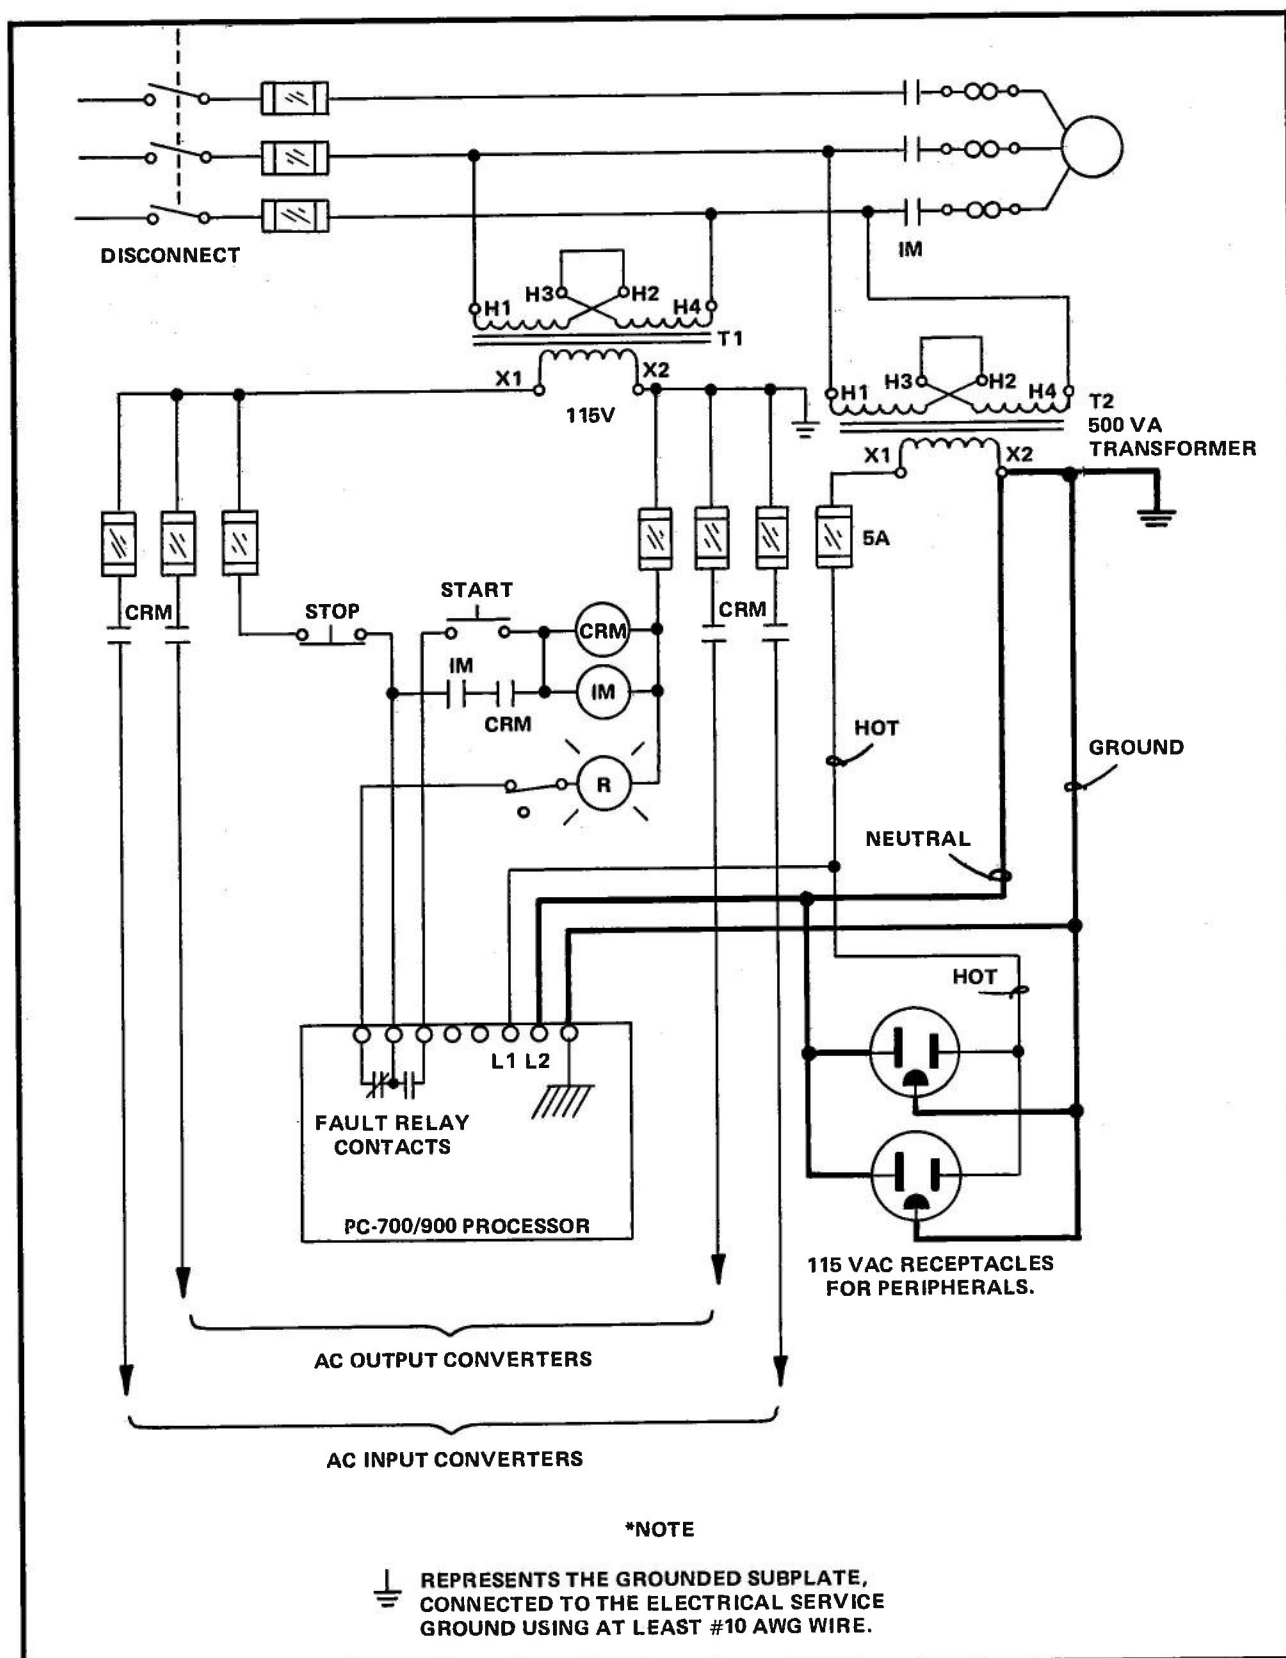

Figure 7-13. Typical PC-700/900 System Power Wiring
A typical programmable controller power wiring scheme is shown in Figure 7-13. As shown, power to the processor and peripherals is isolated by a 500 VA control transformer (T2). The X2 end of this transformer's secondary, the ground pin of the 115 Vac peripheral's receptacles, and the processor's ground terminal are all connected to the subplate. This T2 transformer is a Westinghouse Type MTC (or equivalent), 500 VA transformer used to isolate the power supply from I/O-generated switching transients in normal applications. In applications where particularly "dirty" a-c supply lines exist, change T2 to a high isolation transformer or line conditioner.
makes the Fault Condition relay's normally-open (NO) and normally-closed (NC) contacts available for field wiring. A recommended wiring scheme for the Fault Condition and Master Control relays is shown in Figure 7-13. This figure shows an a-c application. A similar wiring scheme should be used for d-c applications.